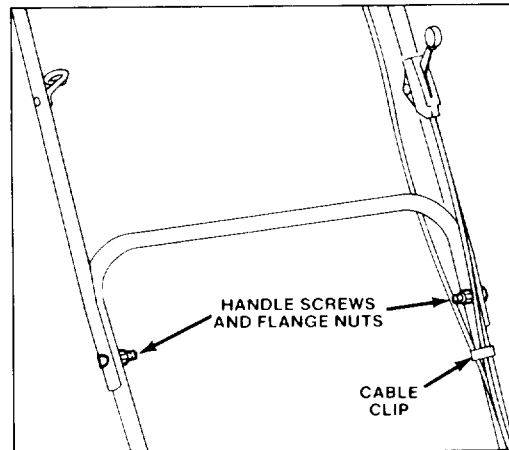

Figure 2
2. UPPER HANDLE (Fig. 2) — Secure upper and lower handles in place with handle screws and flange nuts. Control cables must be in front of lower handle cross member. Secure control cables in position with cable clip.